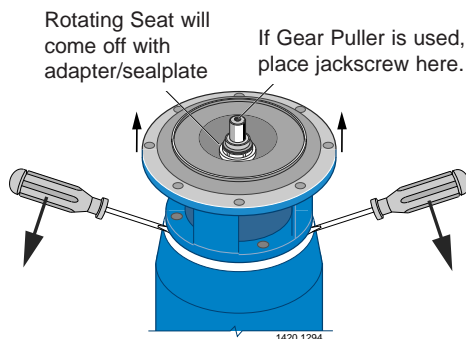

Figure 2
4. Use two screwdrivers (Figure 2) or bearing puller to carefully separate motor from adapter/seal plate, bringing rotating half of seal off with adapter/seal plate. Shaft sleeve may come off with seal.